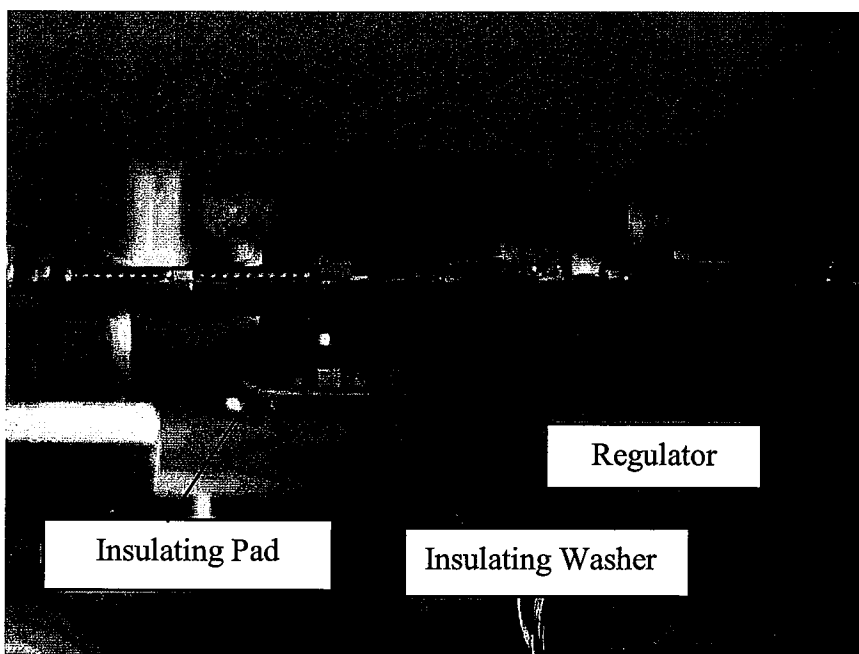

Figure 1
9.1.1 All voltage regulators attached to the "C" plate have a thermal insulating pad under them and a insulating shoulder washer between mounting screw and regulator; Reader board has two regulators and the Power Supply has one. All pins between the Reader board CN2 and the Power Supply Board CN2 are correctly aligned and seated. See Figures 1 and 2 below.